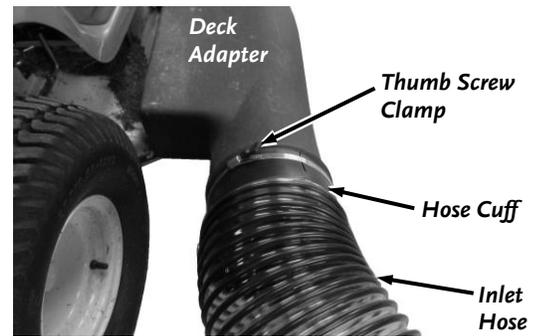

Figure 56
- Reinstall the Cuff onto the Hose and tighten the Hose Clamp. Install the Cuff to the Deck Adapter (**Figure 56**).